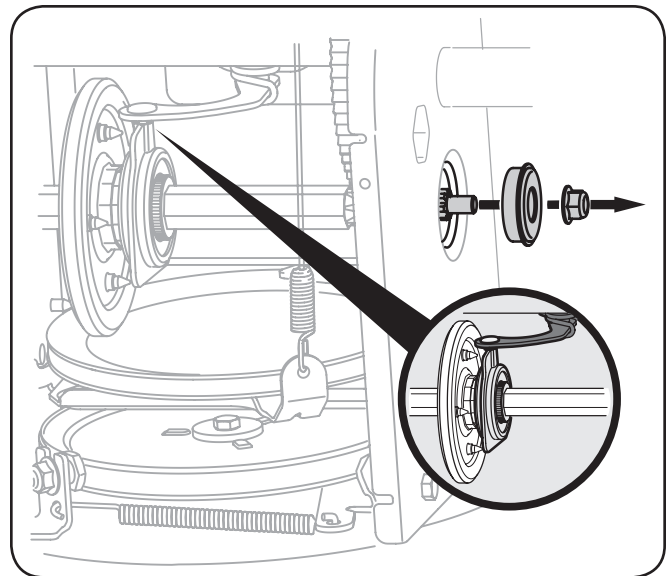

Figure 7-8
5. Carefully remove the hex nut which secures the hex shaft to the snow thrower frame and lightly tap the shaft's end to dislodge the ball bearing from the right side of the frame. See Figure 7-8.
**NOTE:** Make sure the shift lever pin is in place in the bearing housing. See Figure 7-8 inset.